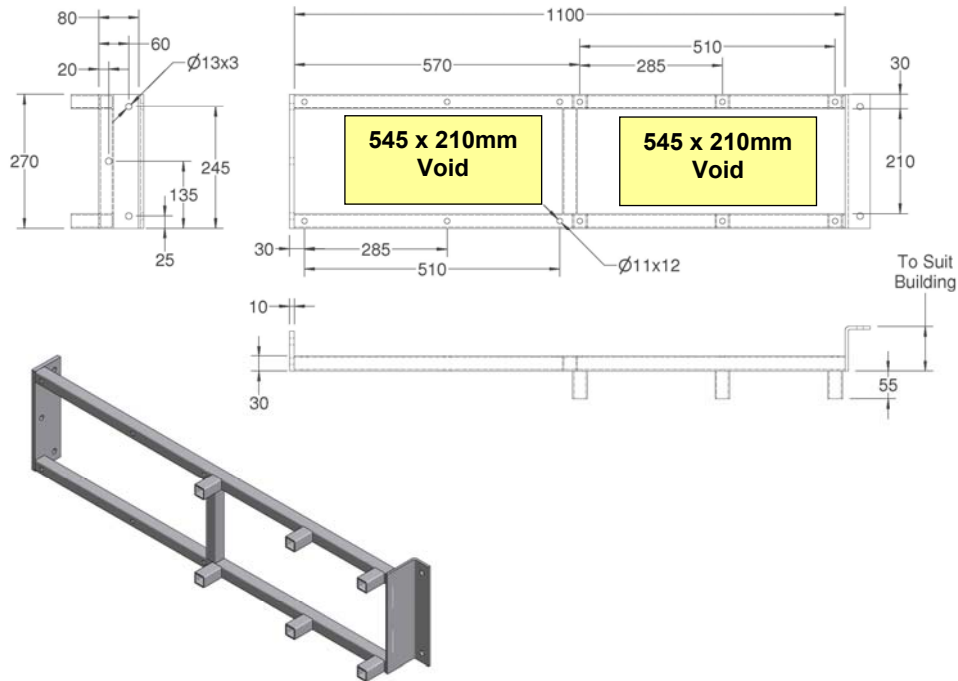

Figure 14a: Double Electric Drive Mounting Bracket
15.1 Suggested design of the customer supplied brackets for adjacent drives using steel profiles is shown in Figure 14a and 14b. If alternatives are used (larger box profile, or angle) ensure the inner section indicated is clear of obstructions.